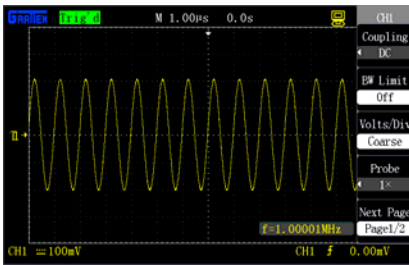

Figure 2-11 Coarse tuning
- Press **[CH1]**→“**Volt/div**”→“**Coarse tuning**”, and determine the vertical gear by a 1-2-5 stepping mode in coarse tuning, as shown in figure 2-11.